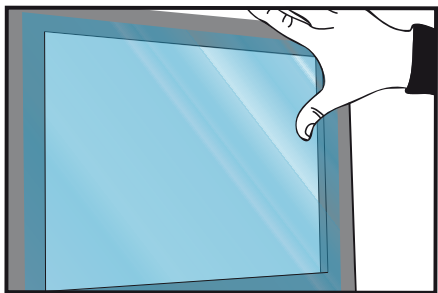

Figure 13
- › Start the application to the screen. Apply the film progressively. As you work on a transparent substrate, it is important to apply the film very evenly. This application can be carried out either with a squeegee (previously covered with felt), or by hand (wear cotton gloves). (FIG. 13)